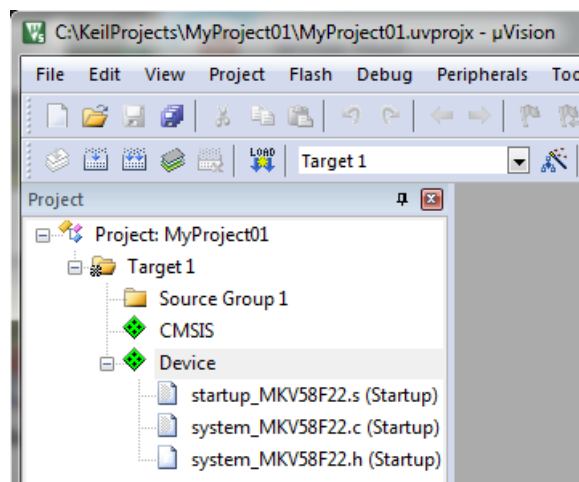

Figure 1-31. Project
10. Click OK, and a new project is created. The new project is now visible in the left-hand part of Keil μ Vision. See Figure 1-31.
13. Select Use Single Precision in the Floating Point Hardware option. See Figure 1-31.